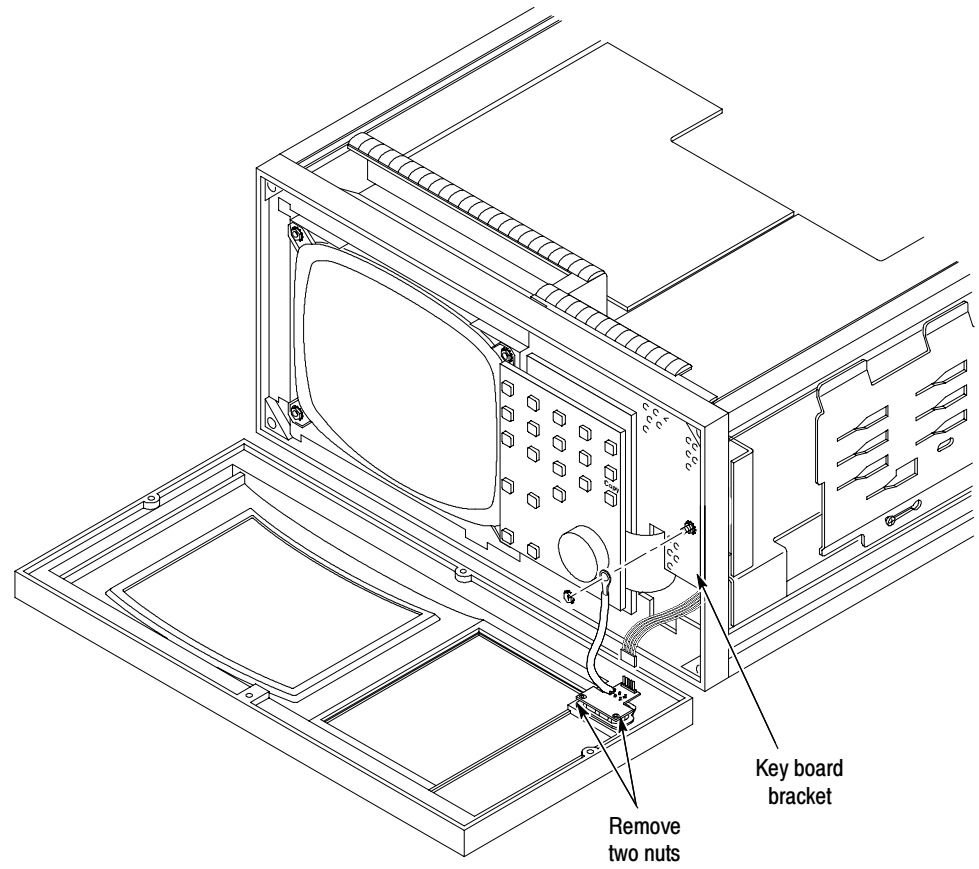

Figure 4: Disconnecting the STBY/ON switch
- c.** Disconnect the 5-conductor cable from the STBY/ON switch. See Figure 4.
- d.** Remove the nut that holds the STBY/ON switch ground strap ring terminal to the keyboard bracket, and disconnect the ground strap. See Figure 4.
- a.** From the circuit side of the STBY/ON switch, remove the two nuts holding the switch assembly to the bezel. See Figure 4.
- d. Connect the ground strap ring from the STBY/ON switch to the keyboard bracket. See Figure 4 on page 7. Reinstall and tighten the nut that holds the ground strap ring in place.